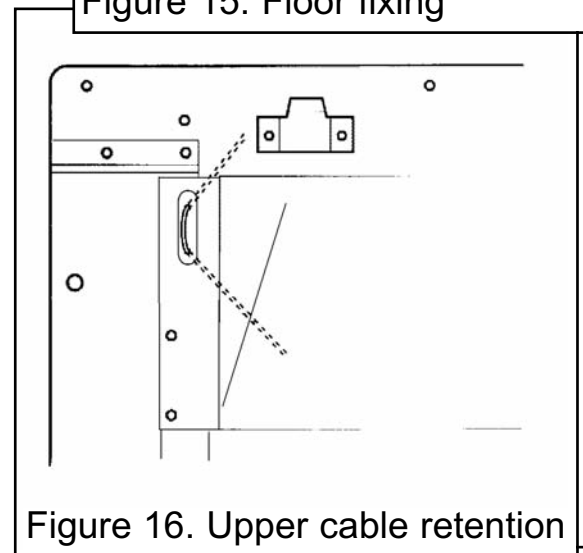

Figure 16. Upper cable retention
6. The hotbox has two holes at each side of the spillage plate. Insert one end of each cable (one cable each side) from the back through the lower of the two holes and return the end through the upper of the holes (See figure 16). Give the cables a pull so that they grip against the hotbox flanges.